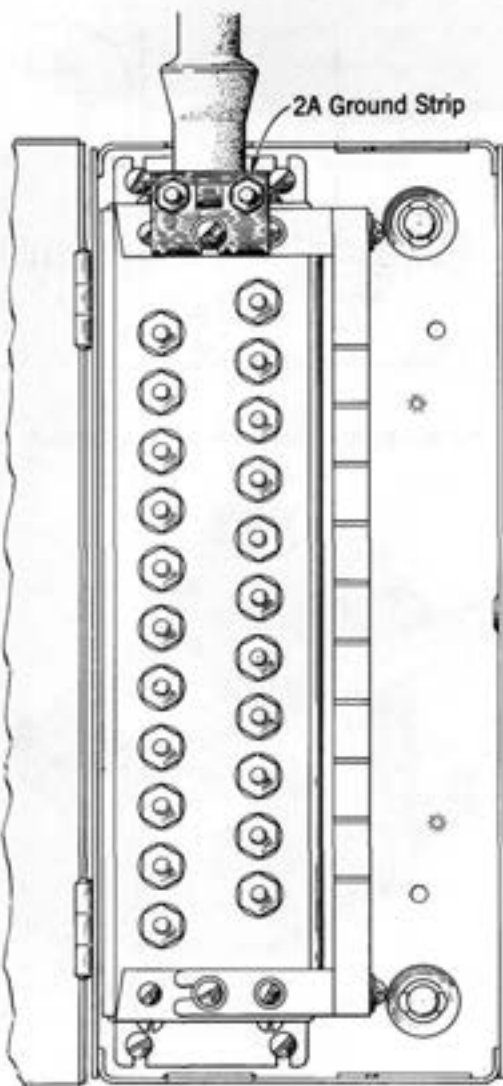

Fig. 68—2A Ground Strip Installed in GA-Type Cable Terminal
7.03 The 2A ground strip (Fig. 67) consists of a brass plate with two binding posts. The plate has a "U"-shaped slot for a mounting screw and a depressed tab which prevents the ground strip from turning after it is installed. The 2A ground strip has a capacity of 14 wires. The 2A ground strip installed in a GA-type cable terminal is illustrated in Fig. 68. The 2A ground strip can also be installed on the backboard of a PC6 or PC12 cable closure.